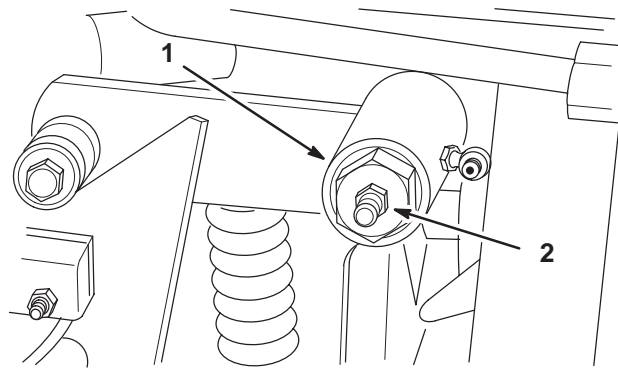

Figure 26
4. Loosen the locknut on the traction adjustment cam (Fig. 26).
5. Start the engine and rotate the cam hex (Fig. 26) in both directions to determine the mid position of the neutral span.